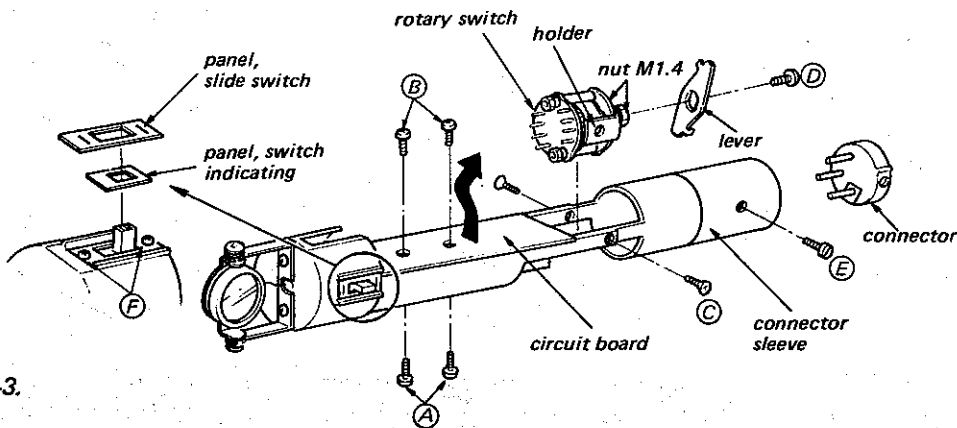

Fig. 2-3.
### 2-4. Pad and High-cut Switch Removal (Refer to Fig. 2-3.)
3. Remove the screws marked (F) in Fig. 2-3.
### 2-5. Circuit Board Removal (Refer to Fig. 2-3.)
2. Remove the two screws marked (B) in Fig. 2-3.
3. Remove the circuit board in the direction shown by the arrow in Fig. 2-3.
Note: By removing the two screws marked (A) in Fig. 2-3, the circuit board is removable along with bosses on the circuit board.
## 2-6. Rotary Switch Removal (Refer to Fig. 2-3.)
2. Remove the two screws marked (C) in Fig. 2-3 and take off the rotary switch out of the chassis.
3. Remove the lever by removing the screw marked (D) in Fig. 2-3.
## 2-7. Connector Removal (Refer to Fig. 2-3.)
2. Remove the screw marked (E) in Fig. 2-3.